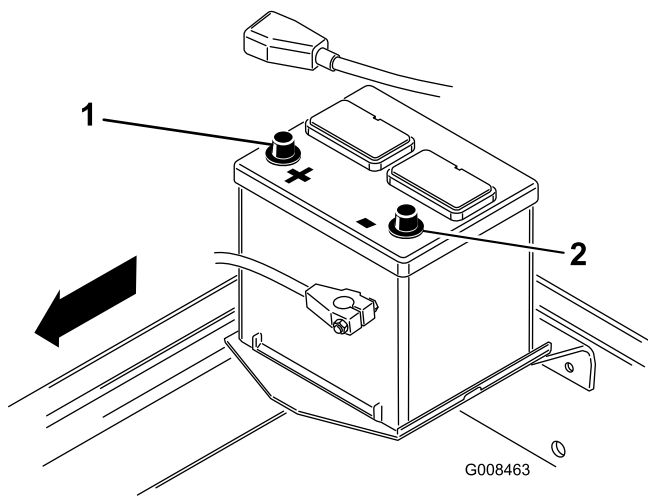

Figure 11
8. First, install the positive cable (red) to the positive (+) terminal and then the negative cable (black) to the negative (-) terminal of the battery (Figure 11). Slide the rubber boot over the positive terminal to prevent a possible short from occurring.